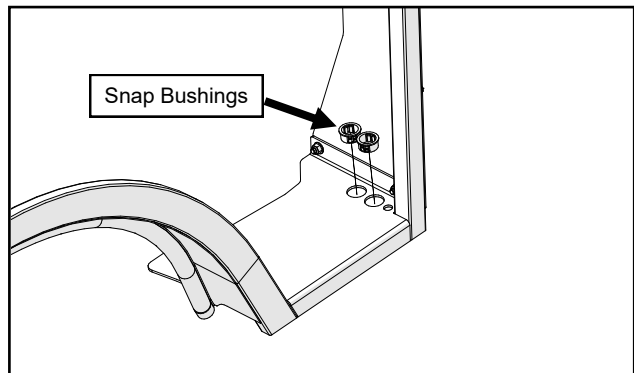

Fig. 17.1 (Install Snap Bushings)
17.1 Install the 2 supplied plastic snap bushings in the right cab floorboard. See Figure 17.1.